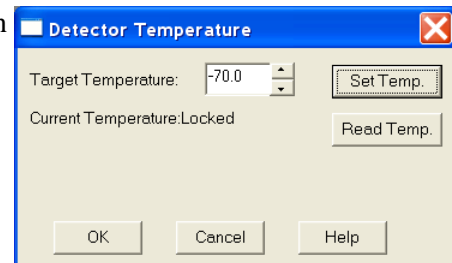

Figure 28. Temperature dialog
1. Open the WinSpec/32 Setup menu and click on **Detector Temperature**. This will cause the Temperature dialog to appear as shown in Figure 28.